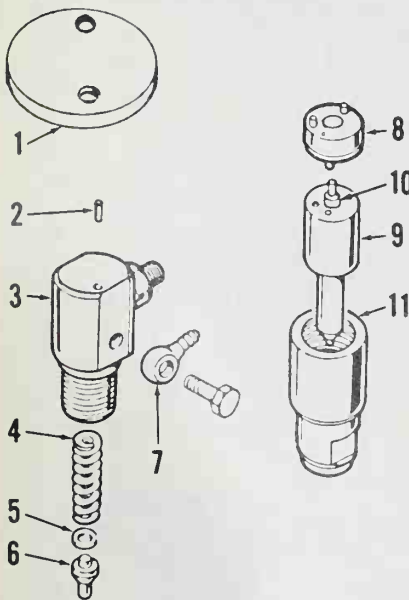

Fig. L2-9—Exploded view of injector.
remove injector, first clean dirt from injector, injection line, return line and cylinder head. Disconnect return line and plug all openings. Unscrew retainer plate (1—Fig. L2-9) being careful not to lose dowel pin (2). Injector may now be carefully removed from cylinder head. Do not lose shims between injector and cylinder head.
Opening pressure with a new spring (4—Fig. L2-9) should be 21.6-22.5 MPa while opening pressure with a used spring should be 20.6-21.6 MPa. Opening pressure is adjusted by varying number and thickness of shims (5). Valve should not show leakage at orifice spray holes for 10 seconds at 19.1 MPa.
OVERHAUL. Clamp nozzle body (3—Fig. L2-9) in a vise with nozzle tip pointing upward. Remove nozzle holder nut (11). Remove nozzle tip (9) with valve (10) and spacer (8). Invert nozzle body (3) and remove spring seat (6), shim (5) and spring (4). Thoroughly clean all parts in a suitable solvent. Clean inside orifice end of nozzle tip with a wooden cleaning stick. The orifice spray holes may be cleaned by inserting a 0.28 mm cleaning wire. When reassembling injector, make certain all components are clean and wet with clean diesel fuel oil. Tighten nozzle holder nut (11) to 60-90 N·m.